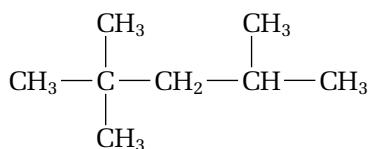

Figure 13.15 This compound is 2,2,4-trimethylpentane, an isomer of C₈H₁₈. It is one of the main ingredients in gasoline.
3. When possible, put numbers in ascending order. (For example, the compound in Figure 13.15 compound is 2,2,4-trimethylpentane, not 4,2,2-trimethylpentane.)